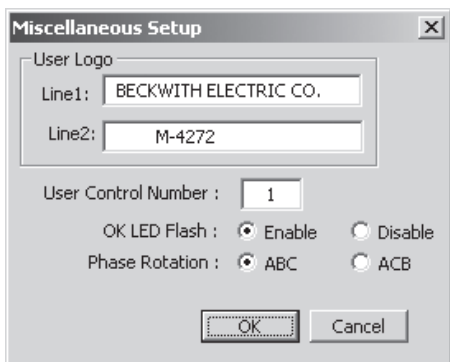

Figure 4-5 Miscellaneous Dialog Screen
1. From the ISScom Main Screen menu select **Tools/Miscellaneous Setup**. ISScom will display the Miscellaneous Setup dialog screen (Figure 4-5).